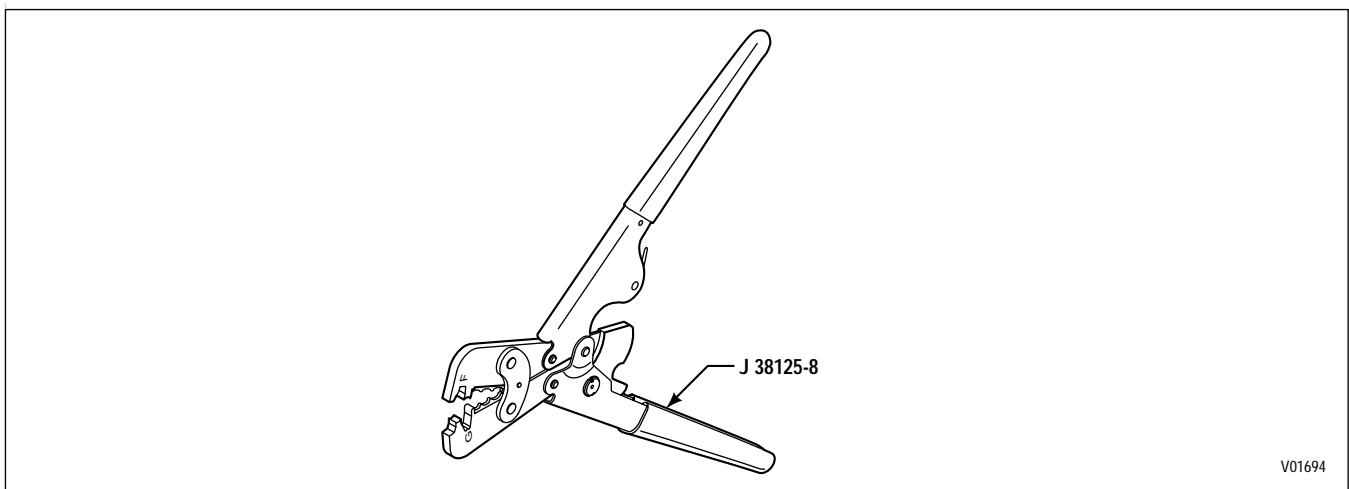

Figure E-15. Crimper J 38125-8
- Crimping Tool for Pre-insulated Crimp J 38125-8 (refer to Figure E-15)